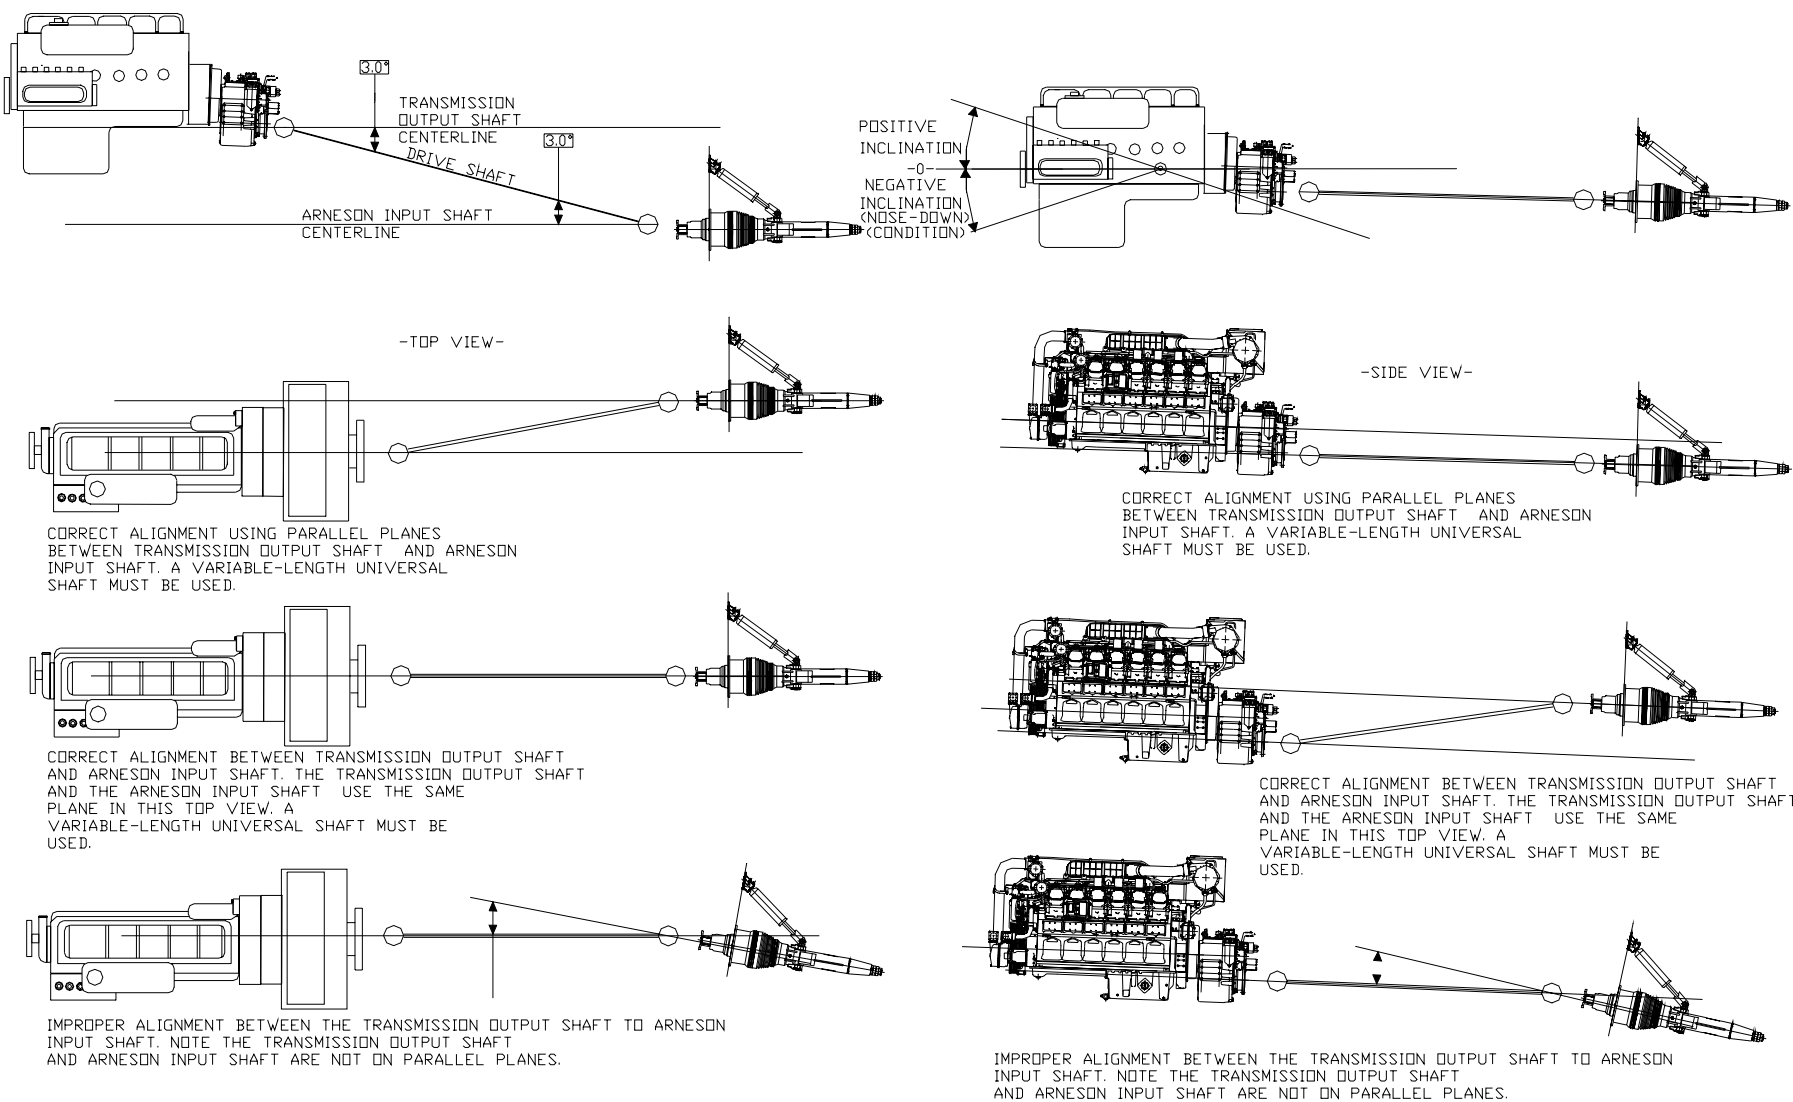

Figure 31. Examples of Proper and Improper Alignment
3. Examples of proper and improper alignment are shown in Figure 31.